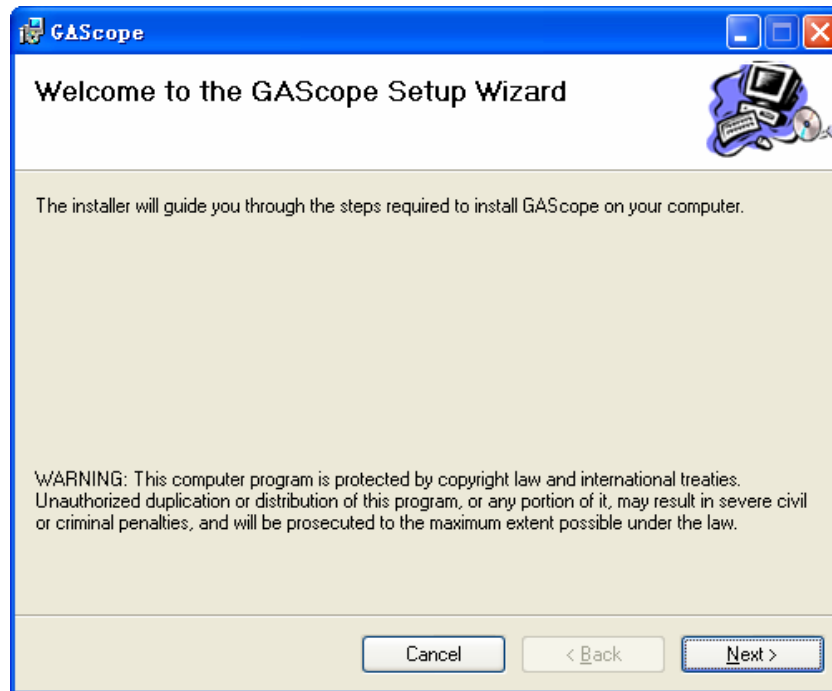

Figure 2-1
2.1 Click GAScopeSetupCn.msi icon to start the installation, as shown in Figure 2-1.